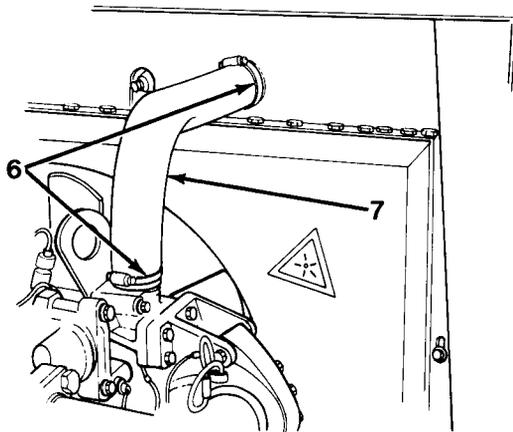

Figure 9-4
9. Install upper hose (7) and secure with two clamps (6, Figure 9-4).